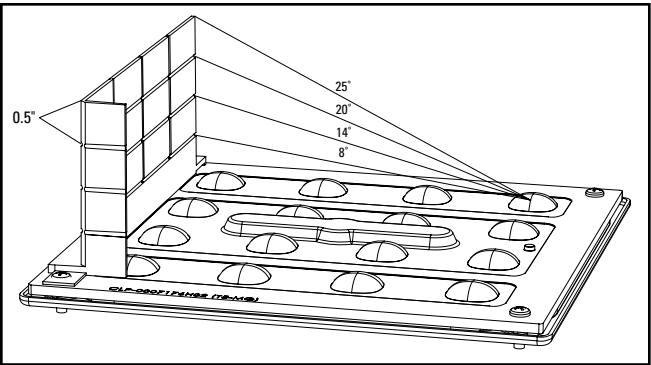

Figure 1.
Horizontal angles of occlusion, measured perpendicular to the shield from the farthest LED are as follows (FIG 1):
- Before installing, calculate the shield dimensions needed, adjusting the height or width by cutting along the grooved sections (optional). (FIG 1)